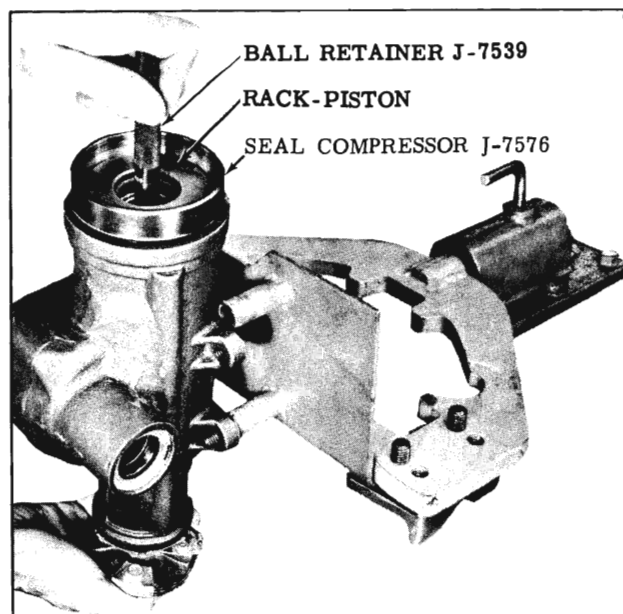

Fig. 4-69 Installing Rack-Piston
- c. With Ball Retainer J-7539 in place in the rack-piston, push the rack-piston into the housing until Tool J-7539 contacts the worm. (Fig. 4-69)